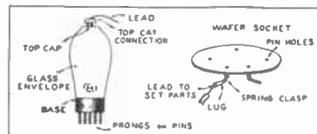

Fig. 3A. Tube, its socket and top Cap
**Taking Out the Tubes.** Tubes are numbered either on the base or on the glass envelope, as indicated in Fig. 3A. You may find the tube socket marked with a number indicating what type of tube goes into
a "top cap." A spring cup soldered to a flexible lead wire is the connector. (See Fig. 3A.)